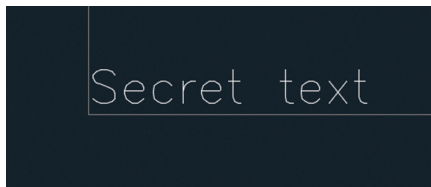

FIGURE 2.4 Secret text in the lower-left corner of the refrigerator
8. Roll the mouse wheel forward to zoom in further and drag the mouse wheel if necessary to reveal the object in the lower-left corner of the refrigerator (see Figure 2.4).